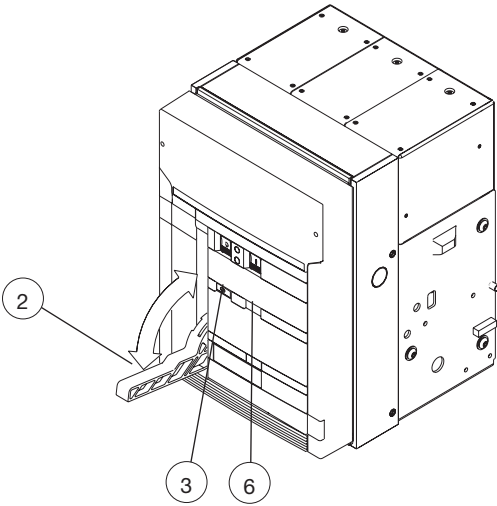

Figure 25.
- Make sure that the indicator (3) shows “O” (circuit-breaker open)
- Make sure that the indicator (6) is WHITE (springs unloaded)
- Repeatedly activate the lever (2) until the indicator (6) changes its color to YELLOW
- The geared motor automatically reloads the springs after each closing operation until the yellow indicator appears (6, Figure 25). When the power is cut off during loading, the geared motor stops and automatically starts reloading the springs again when the power returns. Otherwise manual loading may be performed